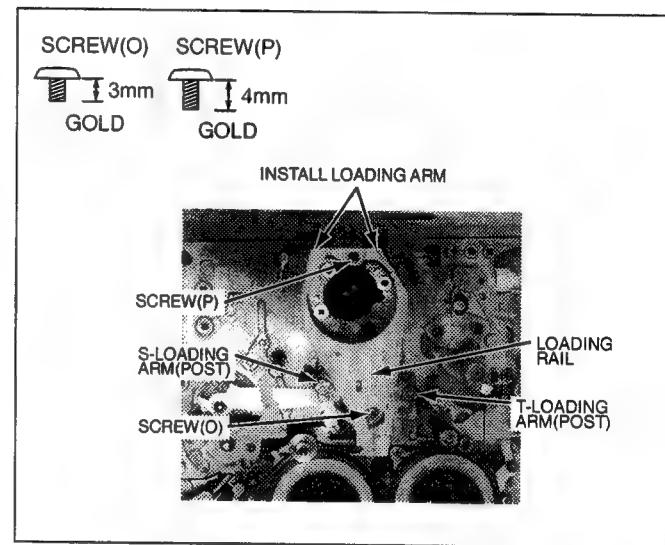

Fig. M-20
- Fig. M-20 Unscrew 2 screws (O) and (P). Then slightly lift up the Loading Rail and slowly remove the S and T Loading Posts from the top side of the Loading Rail.
- Fig. M-20 Install the S and T Loading Posts to the Loading Rail and set the Loading Rail to the chassis. Then install 2 screws (O) and (P).